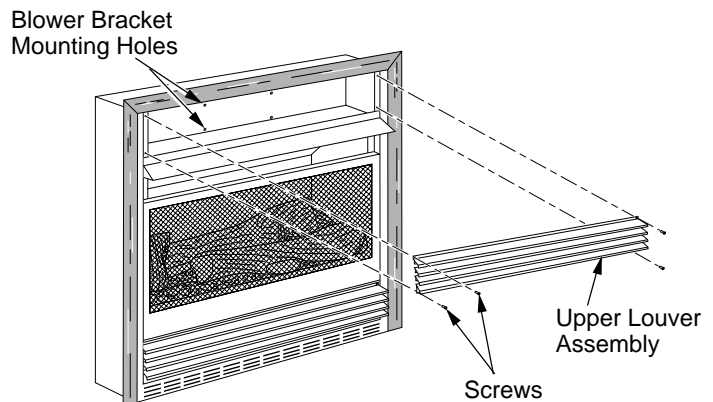
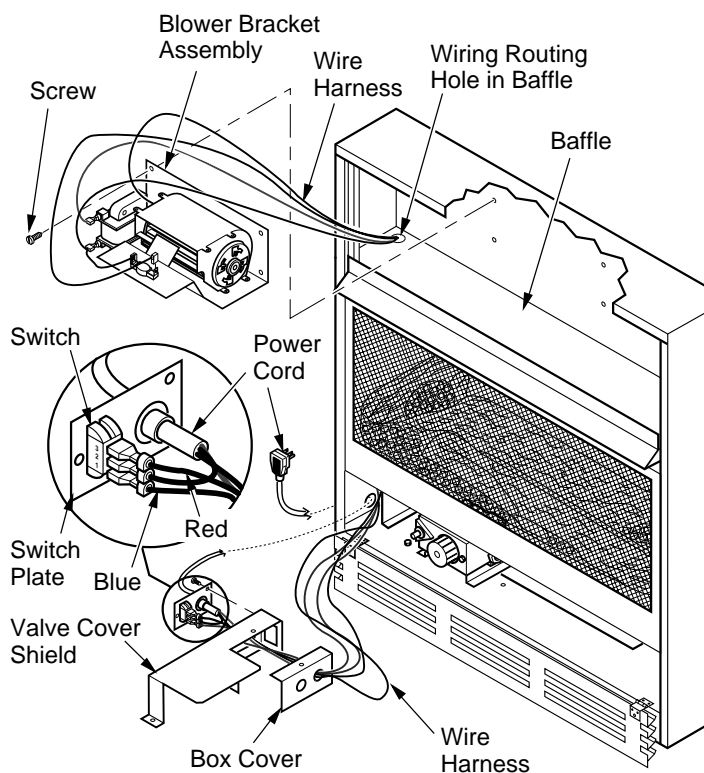
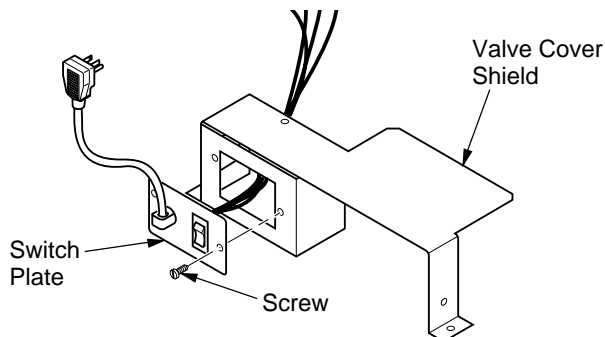

Figure 16 - Removing Upper Louver Assembly
Figure 18 - Installing Blower Bracket Assembly
Figure 19 - Installing Switch Plate to Valve Cover Shield
2. Remove 4 screws from louver assembly (see Figure 16). Save these screws.
3. Note the wire locations on back of AUTO/OFF/ON switch. The terminals on back of switch are numbered 1, 2, and 3. Carefully remove red wire from terminal 1 and blue wire from terminal 3. Black wire can remain on middle terminal 2 (see Figure 18).
5. In top of the heater cabinet, locate the four mounting holes on the outer casing. Align these four holes with those on the blower bracket assembly. Attach blower bracket assembly to the outer casing with 4 #10 screws provided (see Figure 18).
6. Route the wire harness through the hole in left side of baffle. Pull wire harness through lower opening above where the valve shield was removed. (see Figure 18).
7. Insert the 4 wire harness into one of the round holes in the rear of the valve cover shield and through the rectangular hole in the front of shield (see Figure 18).
9. Install the switch plate on the valve cover shield with 2 #10 screws provided (see Figure 19). Reinstall the valve cover shield. Route power cord out of the cabinet by inserting it through the bushing on the outer casing (see Figure 18, page 12). Plug fan kit into 120-Volt grounded power supply and test operation. **Note:** When switch is in the AUTO position, the fan will start after the heater has run for a few moments. The fan will continue to run for several moments after the heater has been turned off. When switch is in the ON position, the fan will run until turned to OFF. Reinstall upper louver assembly and hood if previously removed, (see Figure 16, page 11). Close lower louver door.
8. Reinstall upper louver assembly and hood if previously removed, (see Figure 16, page 11). Close lower louver door.